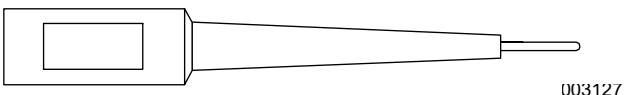

Figure 2-7. Narrow Test Probe
- Meter test leads capable of measuring voltage inside a connector without damaging the socket. A set of black and red test leads (P/N 0J09460SRV) for this application are available. See Figure 2-7.